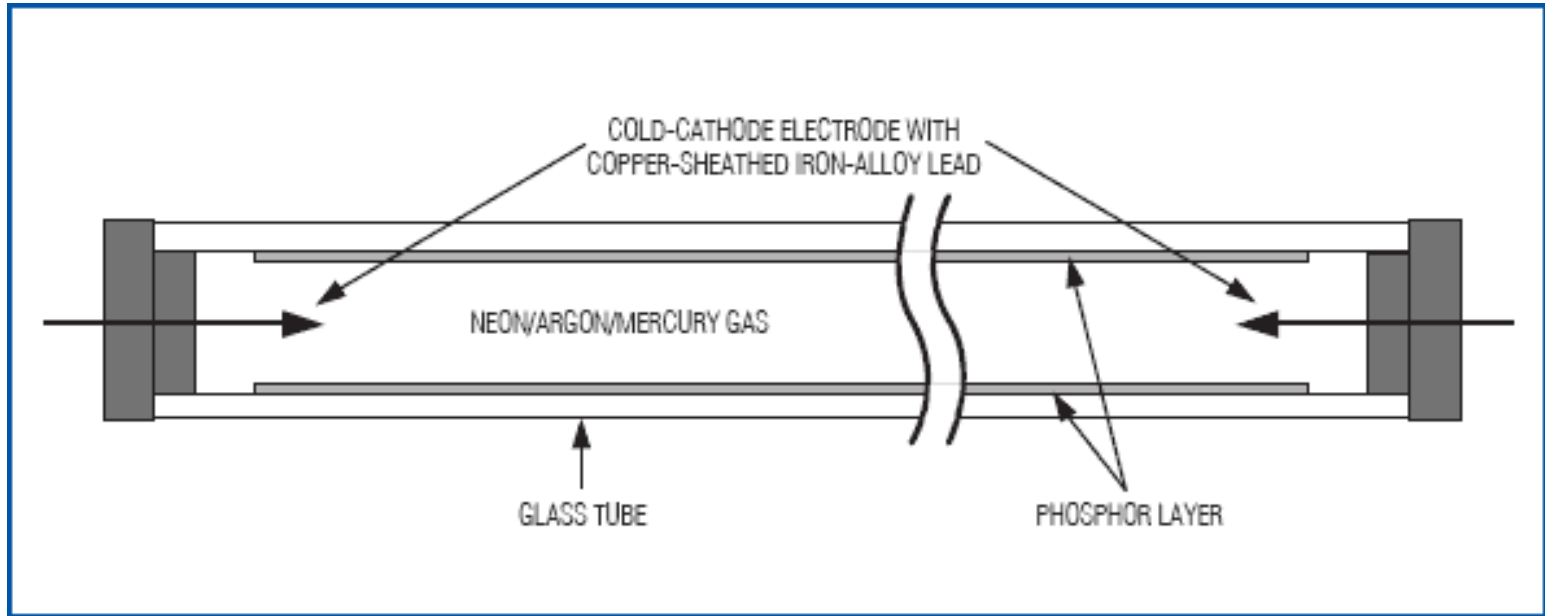

Figure 11. CCFLs are glass tubes filled with inert gasses.
(Figure 11). When a high voltage is sent across the tube, the gases ionize, creating ultraviolet (UV) light. This, in turn, excites an inner coating of phosphor, creating visible light. CCFLs have many desirable features, including: